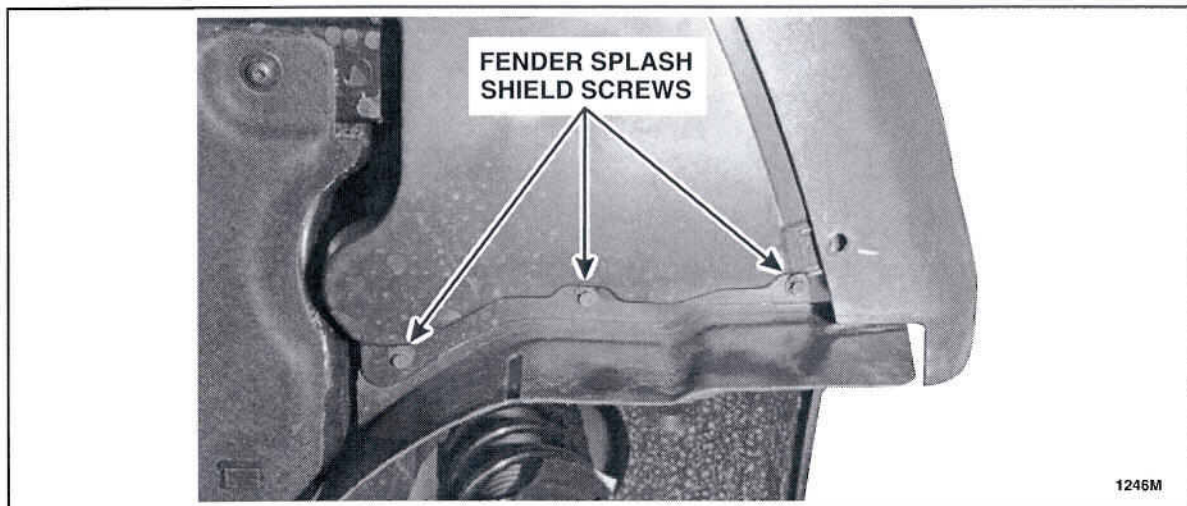

FIGURE 3
4. Remove the three fender splash shield screws from the RH and LH side of the vehicle. See Figure 3.
7. Reposition the fender splash shield and install the three fender splash shield screws to the RH and LH side of the vehicle. See Figure 3.